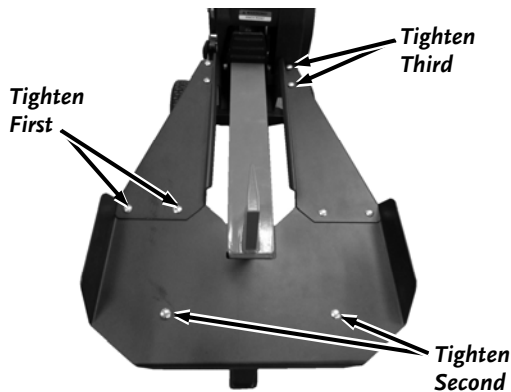

Figure 6
1. First, tighten the four Bolts and Locknuts that secure the Cradle Extensions to the Tray and Support Brackets using a Ratchet and Extension with a 9/16" Socket (**Figure 6**).